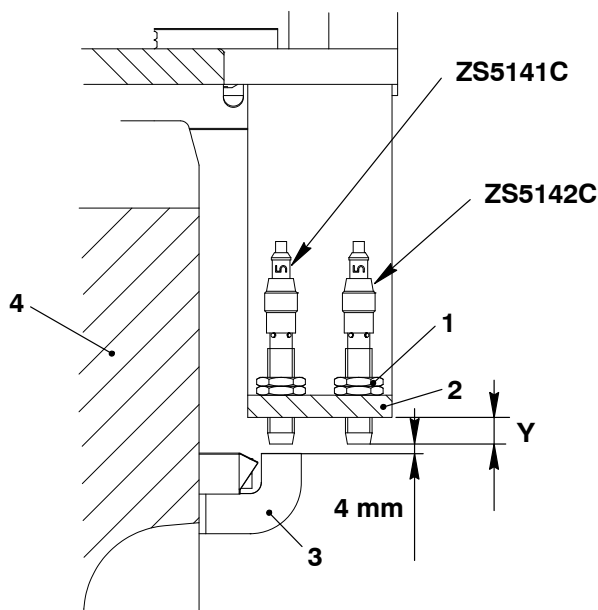

Fig. 3
- 1) Disconnect the electrical connection from the applicable proximity sensor (ZS5141C or ZS5142C, Fig. 3).
- 2) Measure the distance (Y). Use this distance when you install the new proximity sensor.
- 3) On the applicable proximity sensor, loosen the nut and lock nut (1).
- 5) Put the new proximity sensor in the holder (2) to the measured distance (Y).
- 6) Put the new proximity sensor (ZS5141C) in the holder (2, Fig. 3) until the sensor touches the crank angle mark (3).
- 8) Tighten the nut and lock nut (1).